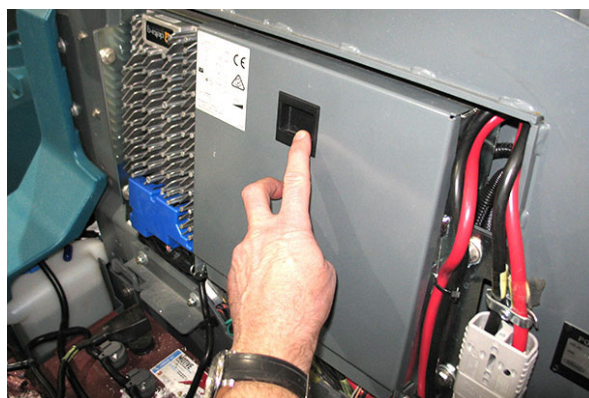

FIG. 1
5. Open and/or remove the electrical compartment cover to access the rear breaker bracket/main wire harness connections behind the rear breaker bracket. (Fig. 1)